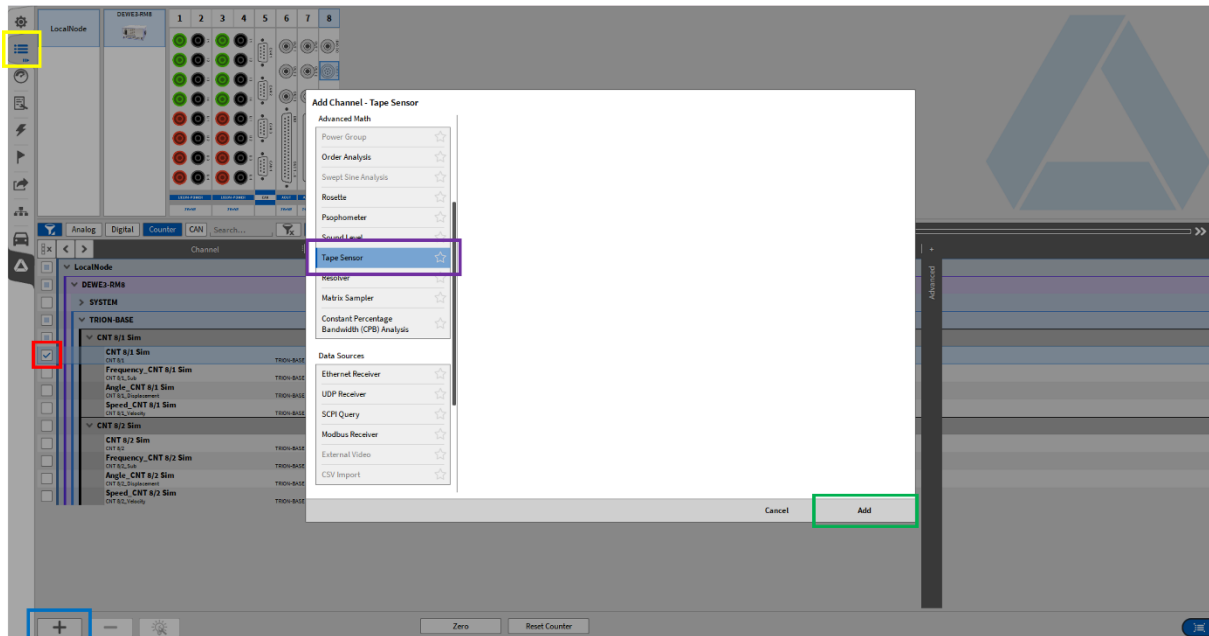

Figure 2-3: Adding a Tape Sensor in OXYGEN
- Start OXYGEN and Open the Channel List (see yellow box in Figure 2-3)
- Select **one** Event counter channel denoted as CNT X/X for which the speed and angle should be calculated by marking the respective check box on the left-hand side (see red box in Figure 2-3)
- Click on the + button on the bottom left (see blue box in Figure 2-3)
- Click on Tape Sensor in the Advanced Math group (see purple box in Figure 2-3)
- Click on the Add button (see green box in Figure 2-3)